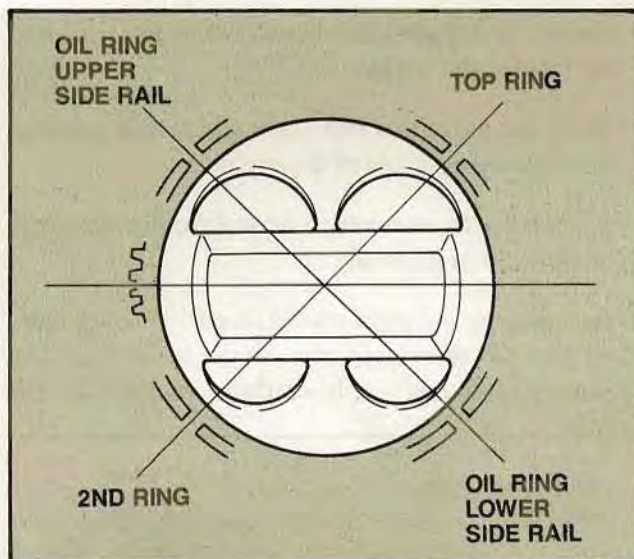

Figure 100. Positioning the Piston Rings
3. Position the piston ring gaps around the piston as shown (Fig. 100).